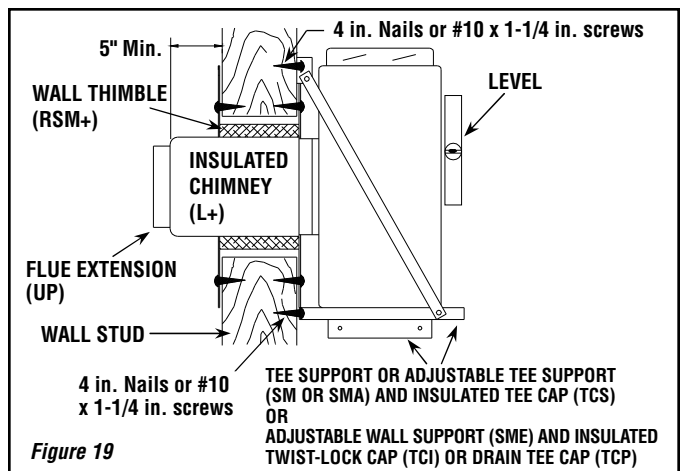

Figure 19
Step 5. This step will require 2 people: (See **figure 19**). Insert the chimney length of this tee-support assembly into the hole in the wall. Using a level, ensure the tee is vertical, then attach the support to the wall using (8) N°. 10 x 1 - 1/4" wood screws or 4" spiral nails.